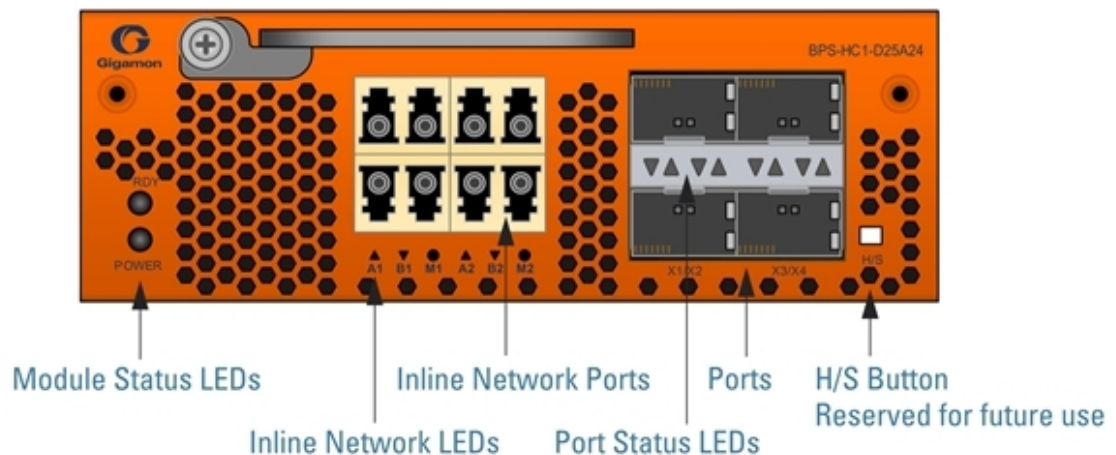

Figure 6 Bypass Combo Module BPS-HC1-D25A24
- Bypass Combo Module with two SX/SR (50/125µm multimode) inline network port pairs and four regular SFP+ port cages (BPS-HC1-D25A24) (Figure 6 Bypass Combo Module BPS-HC1-D25A24)